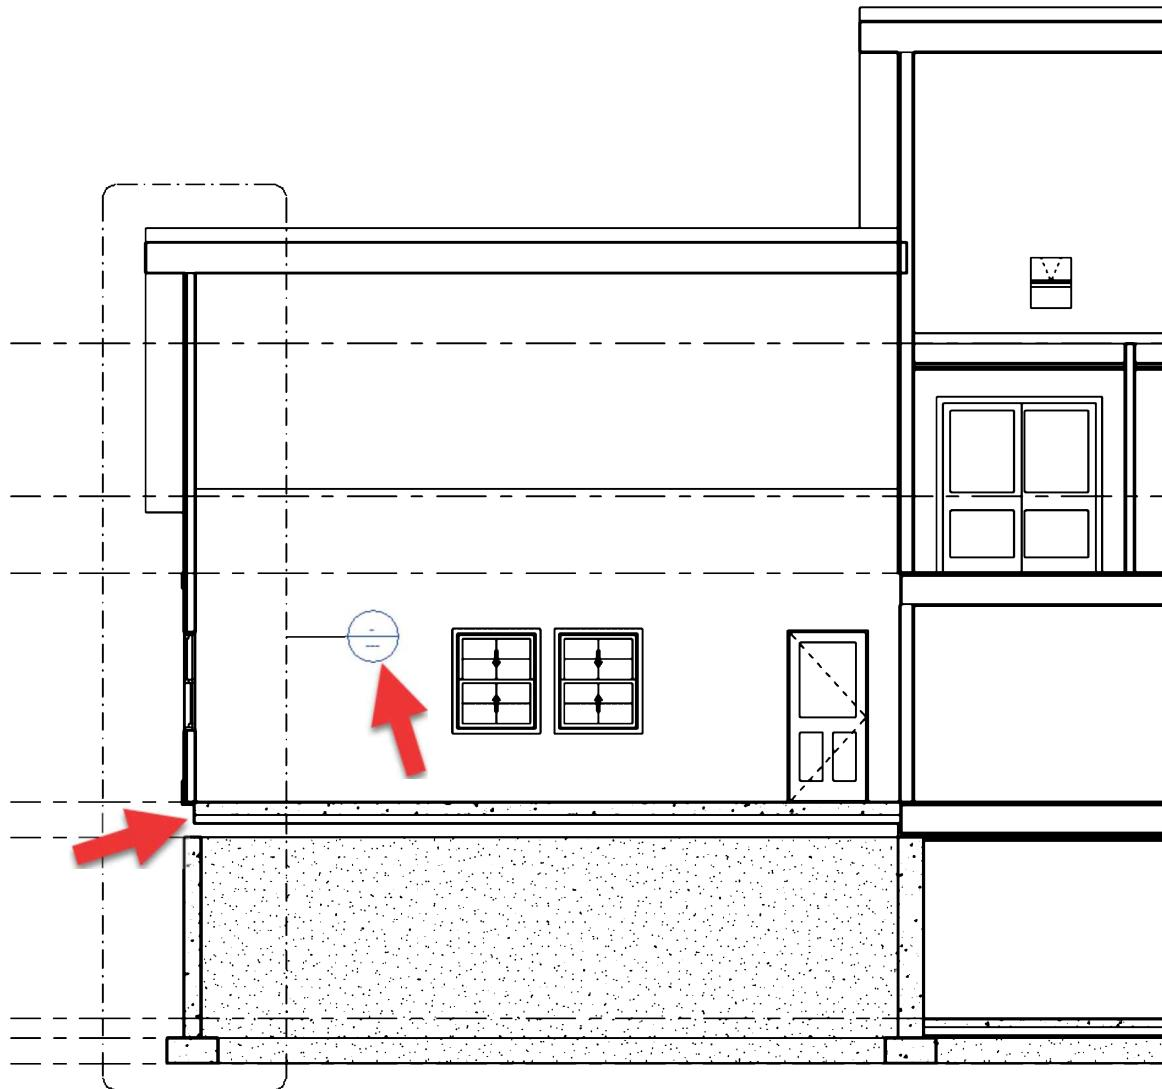

FIGURE 11-3.11 Callout added to longitudinal section
28. Add a “wall section” type **Callout** at the garage wall (Figure 11-3.11).